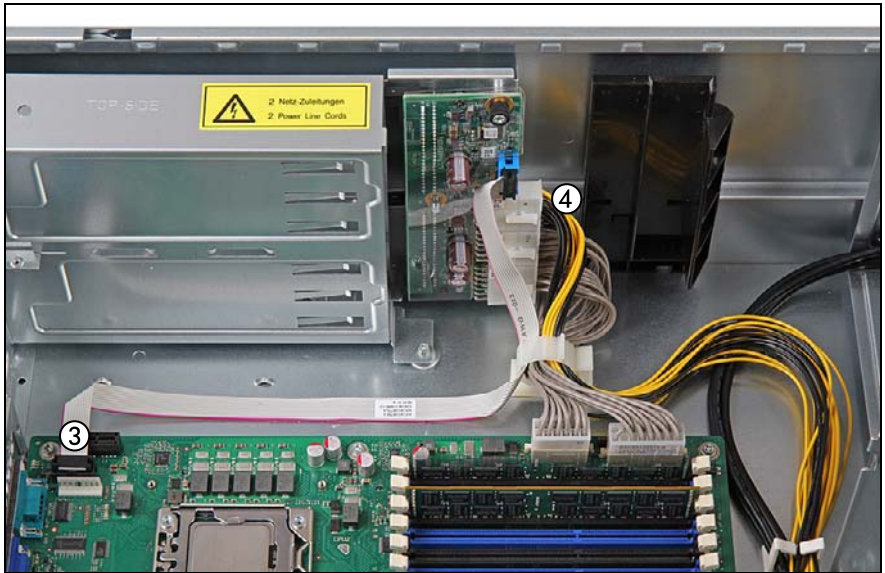

Figure 59: Connecting cables (B)
- ▶ Connect the power cable (4 in figure 59) to the system board and the SAS backplane:
- connector P12 (10-pin) to system board connector "P3(PWR3)" (5)
- Run the cable through the cable guide (6) as shown.
- 2.5-inch HDD configurations (7): see section "Cabling plans" on page 405
- 3.5-inch HDD configurations (7): see section "Cabling plans" on page 405